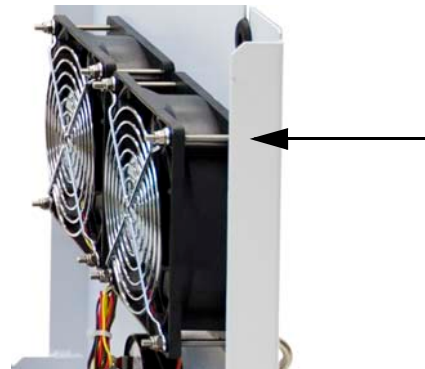

Figure 8 Removing the fan
- 3 Feed one screw from the outside of the Quiet Cover DS through the screw hole, fan, and finger guard (Figure 8).